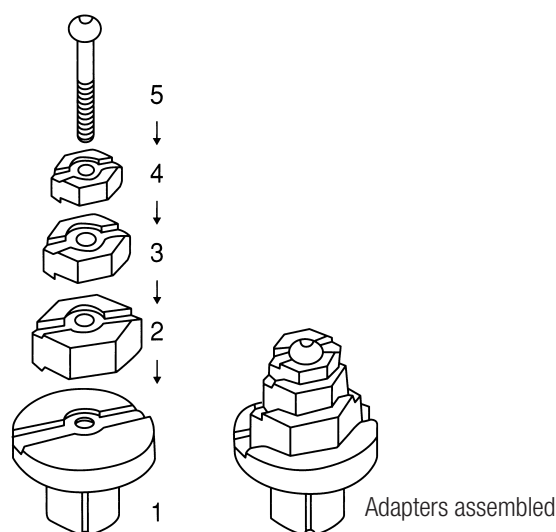

Fig. 1
- Adapters with hexagon heads are free to be combined according to the size of the torque wrench to be checked. (See Fig. 1.)